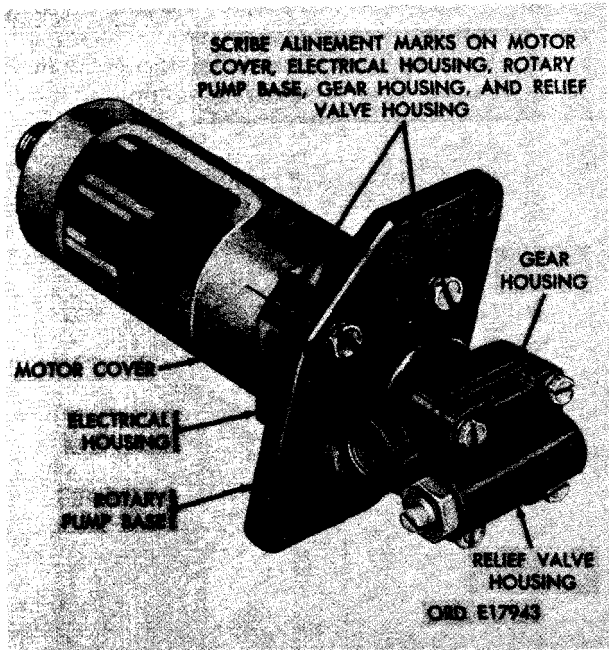

FIGURE 412. LOCATION OF ALIENMENT MARKS ON FLAME HEATER FUEL PUMP ASSEMBLY.
- (1) Refer to figure 412 and scribe alignment marks on housing and base.